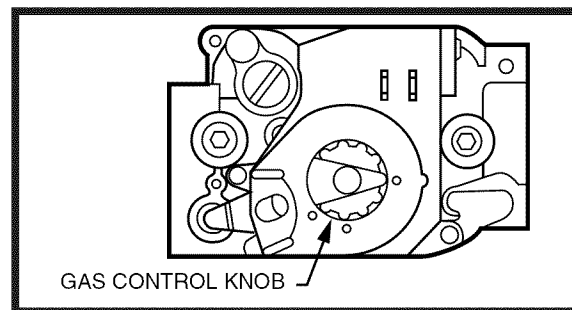
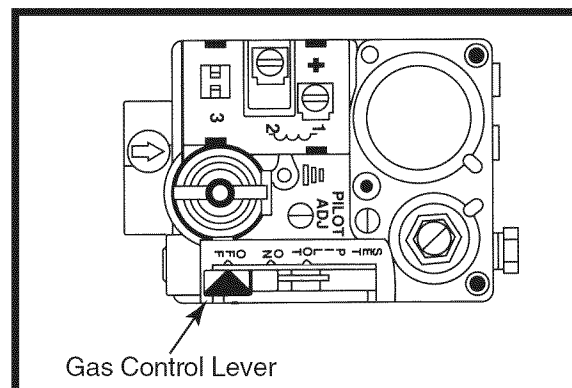

Figure 32. Direct Ignition Gas Valve - Honeywell
Figure 33. Direct Ignition Gas Valve - Robertshaw
- **Honeywell:** push in and turn the gas control knob clockwise to **OFF** (Figure 32)
- **Robertshaw:** push the gas control lever to the **OFF** position (Figure 33). **Do not force!**
4. Wait ten (10) minutes to clear out any gas. If you smell gas, **STOP!** and follow the Safety Information on page 19. If you do not smell gas, proceed to next step 5.
- **Honeywell:** push in and turn gas control knob counter-clockwise to **ON** (Figure 32).
- **Robertshaw:** push the gas control lever to the **ON** position (Figure 33). **Do not force!**
- Honeywell (Figure 32): Turn gas control knob clockwise to **OFF**, Robertshaw (Figure 33): Push the gas control lever to **OFF**.
- Honeywell: push in the gas control knob and turn clockwise to **OFF** (Figure 32).
- Robertshaw: push the gas control lever to **OFF** (Figure 33). The lever cannot be placed in the off position unless it is pushed in slightly. **DO NOT FORCE!**
- Honeywell: push in and turn the gas control knob clockwise to the **OFF** position (Figure 32).
- Robertshaw - push the gas control lever to the **OFF** position (Figure 33).